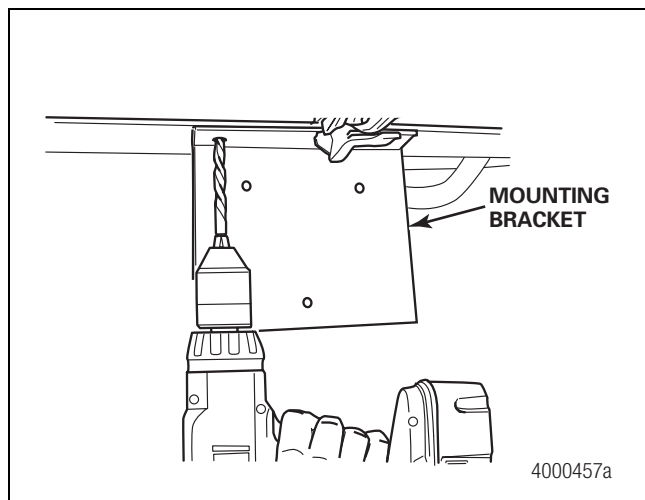
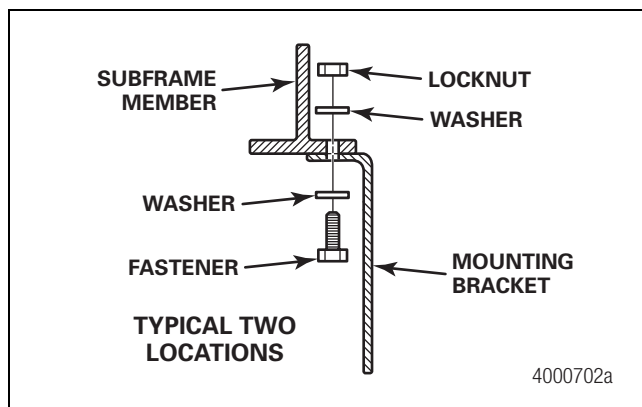

Figure 2.50
Figure 2.51
- Use the supplied mounting bracket as a template and drill two 5/16-inch (0.80 cm) holes into the trailer subframe. Use the supplied fasteners, washers and locknuts to secure the bracket to the subframe. Figure 2.50 and Figure 2.51.